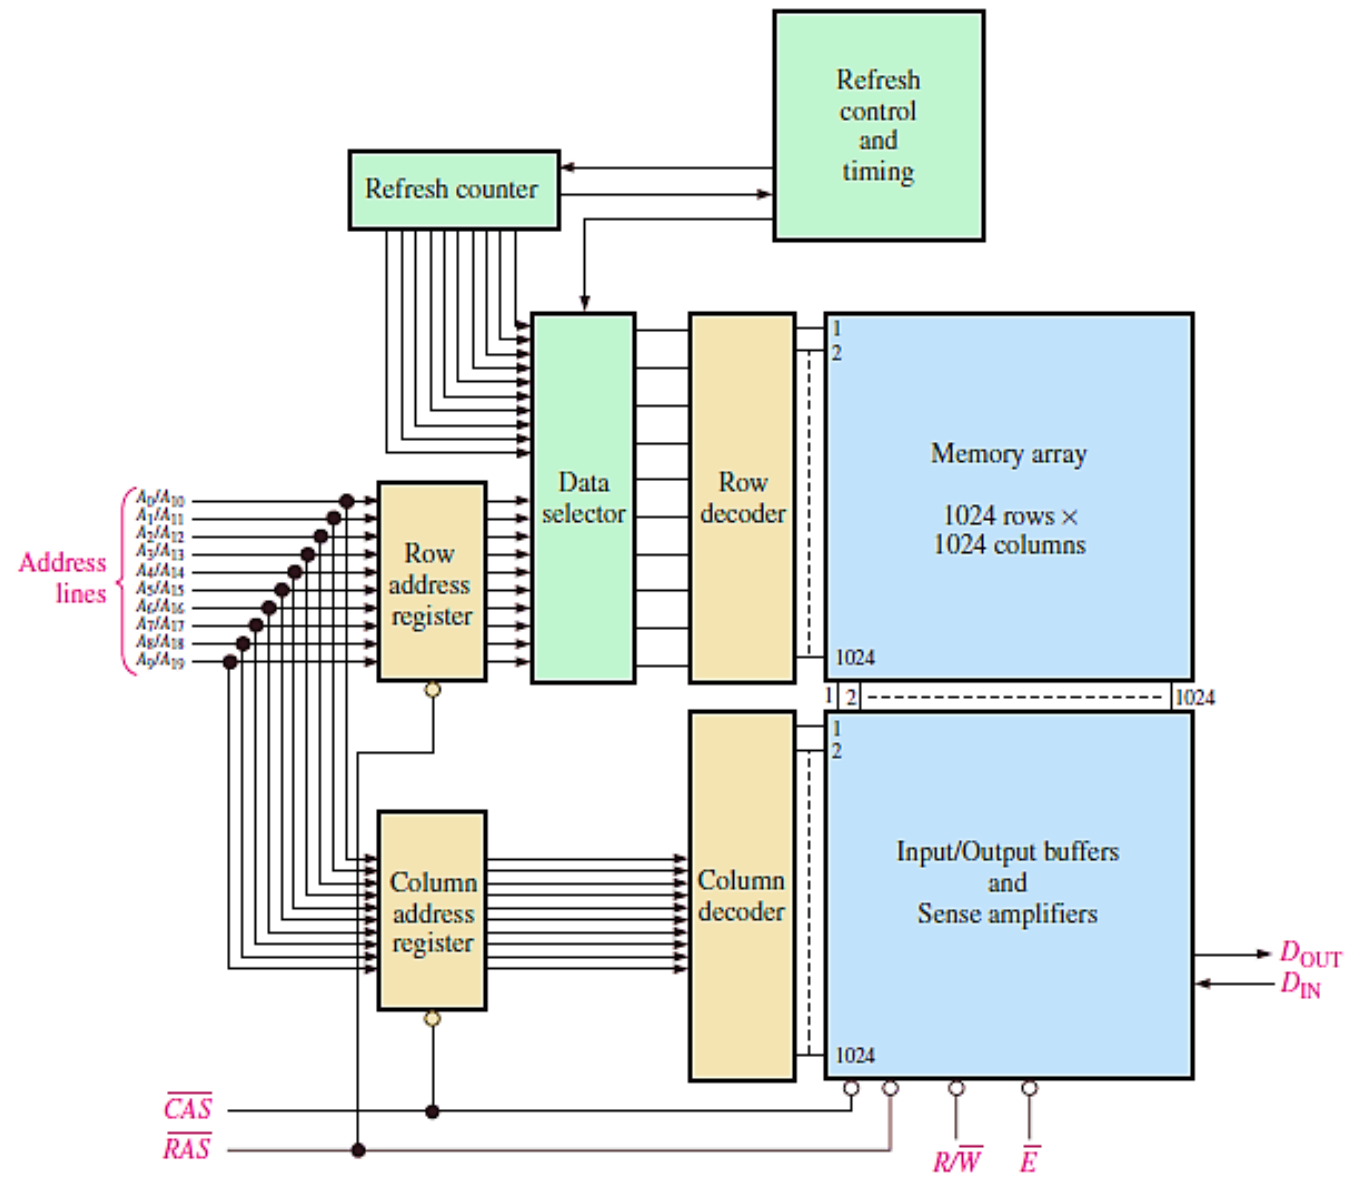

FIGURE 12 Simplified block diagram of a 1M * 1 DRAM.
DRAMs use a technique called *address multiplexing* to reduce the number of address lines. Figure 12 shows the block diagram of a 1,048,576-bit (1 Mb) DRAM with a 1M x 1 organization. We will focus on the blue blocks to illustrate address multiplexing. The green blocks represent the refresh logic.
- ❑ For example, a fast page mode cycle for the DRAM in Figure 12 requires $\overline{CAS}$ to go active 1024 times for each row selected by $\overline{RAS}$.
- ❑ In distributed refresh, each row is refreshed at intervals interspersed between normal read or write cycles. For example, the memory in Figure 12 has 1024 rows. As an example, for an 8 ms refresh period, each row must be refreshed every $8 \text{ ms} / 1024 = 7.8 \text{ ms}$ when distributed refresh is used.